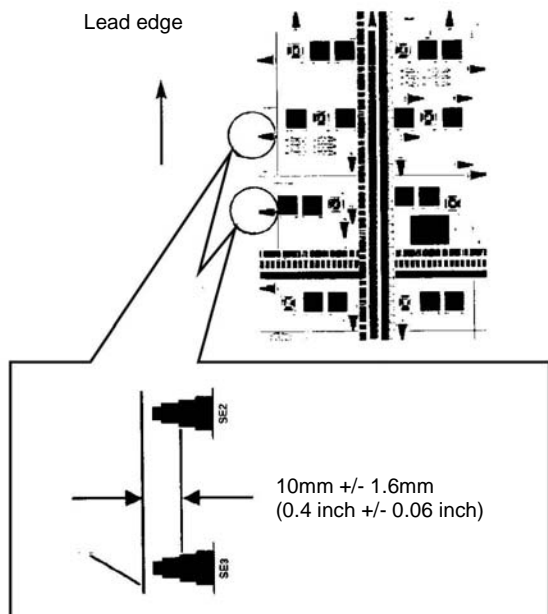

Figure 1 IIT side edge registration
3. On the 2nd copy, check that the distance from the lead edge to the top of Step 3 on the SE2 and SE3 scales is 10mm +/- 1.6mm (0.4 inch +/- 0.06 inch), Figure 1.